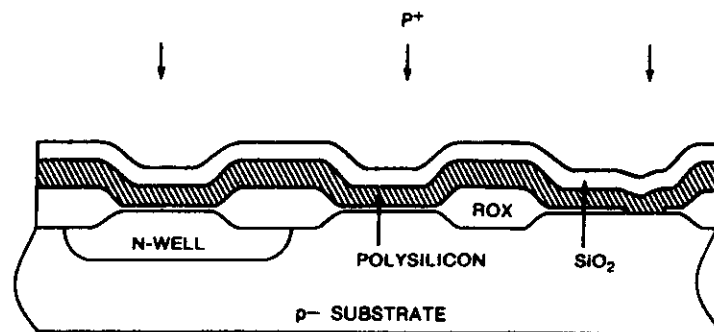

Figure 8. Polysilicon deposition and doping.
5. *Polysilicon Gate Definition.* A layer of polysilicon oxide is then grown over the first polysilicon layer by LPCVD to define device gates. Both layers are then doped by P^+ ion implant as shown in Figure 8. The gate